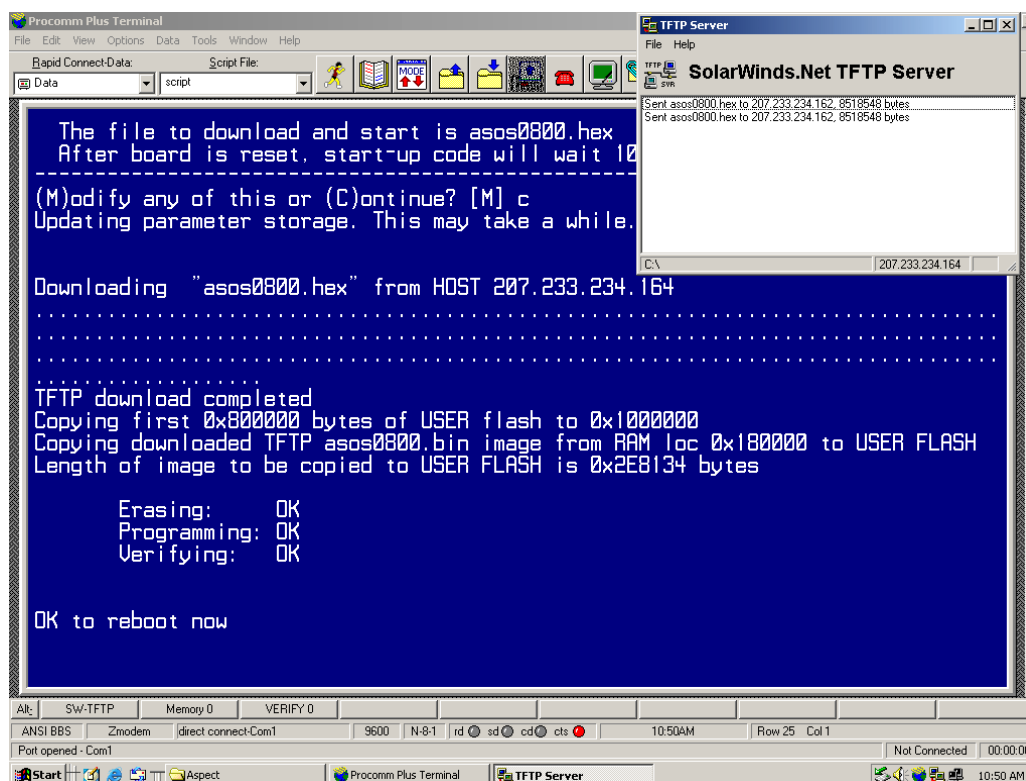

Figure 1
13. Programming should take a few minutes. When programming completes, the following displays (see figure 1):